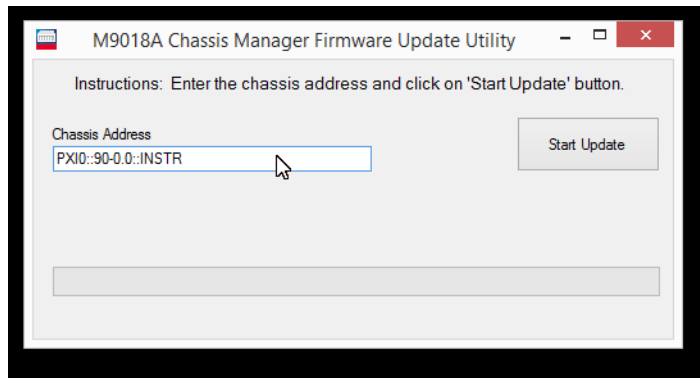

Figure 3 M9018A Chassis Manager Update Utility Screen
- 8 At the **M9018A Chassis Manager Firmware Update Utility** screen, enter or paste the **Chassis Address** in the **Chassis Address** field. See Figure 3 below.